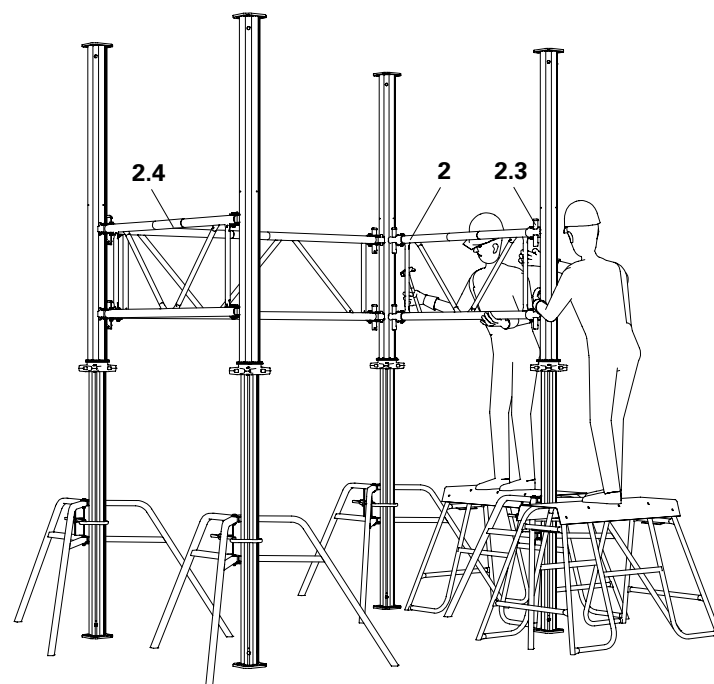

Fig. A4.02
1. Position MULTIPROP Props (1):
- Use the Universal Tripod (12) as an erection aid.
- Place frames (2) at the designated positions, see plan or type test.
- Securely fix the wedges (2.3) with a hammer blow from top to bottom. (Fig. A4.02)